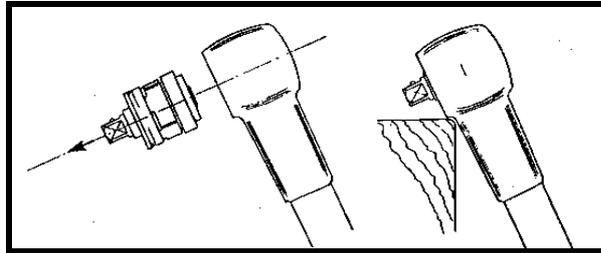
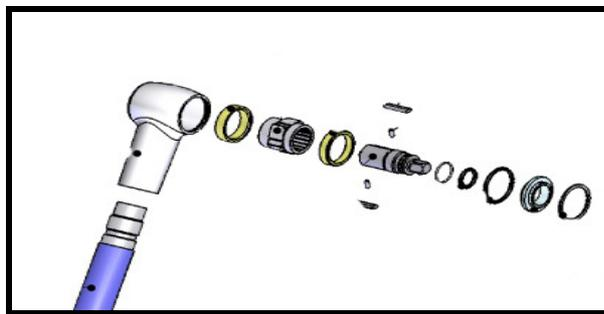

Fig 1
Fig 2
3. Gentle tapping of the head assembly against a wooden block (as per **fig1** below) will eject the *cam/spindle* assembly complete with *cover plate* and *front bearing* from the TSN head. This may also cause the spindle and pawls to be ejected from the cam (as per **fig2** below). If this occurs take care not to lose the pawls or pawl springs.